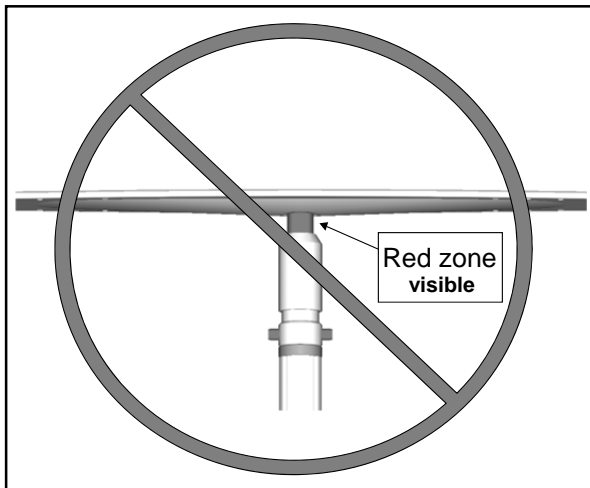
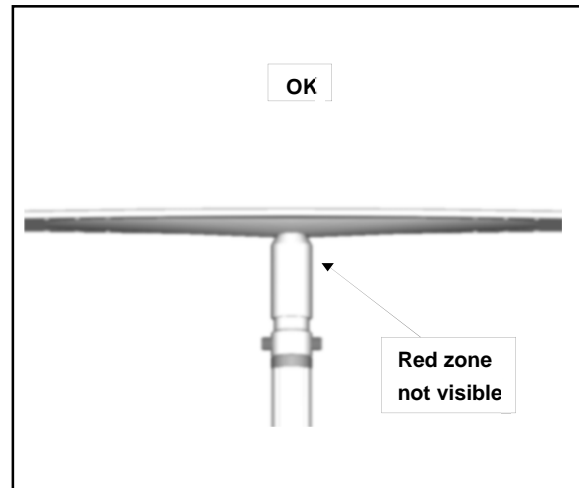

Figure 22
Figure 23
10. Once the bubble is in the centre of the clip-on level – continue to tighten **ONLY** until the **red zone at the top of the post is no longer visible** (see Figure 22 and Figure 23).